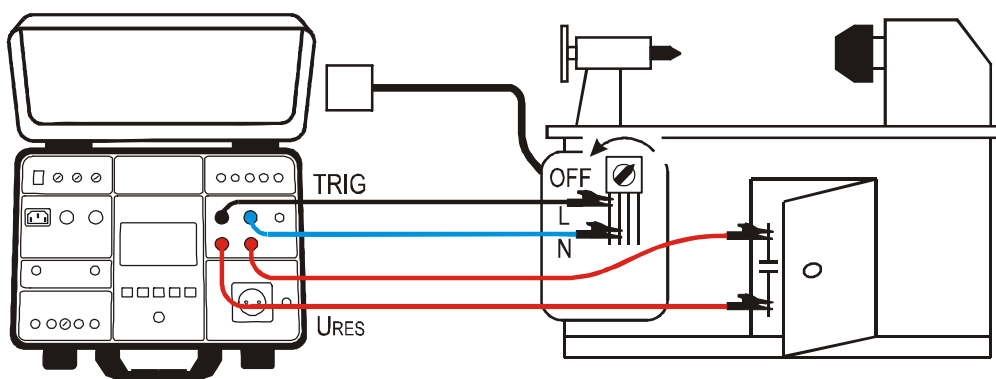

Figure 35: Connection of test leads in URES INT measurement on fixed connected machines
- 6) READY, DISCONNECT UUT message will appear when input voltage UIN within required range $100 \div 460$ V AC is present. Carry out the measurement by disconnecting UUT. Disconnection of UUT according to the figure 35 means disconnection of multiple plug adapter.